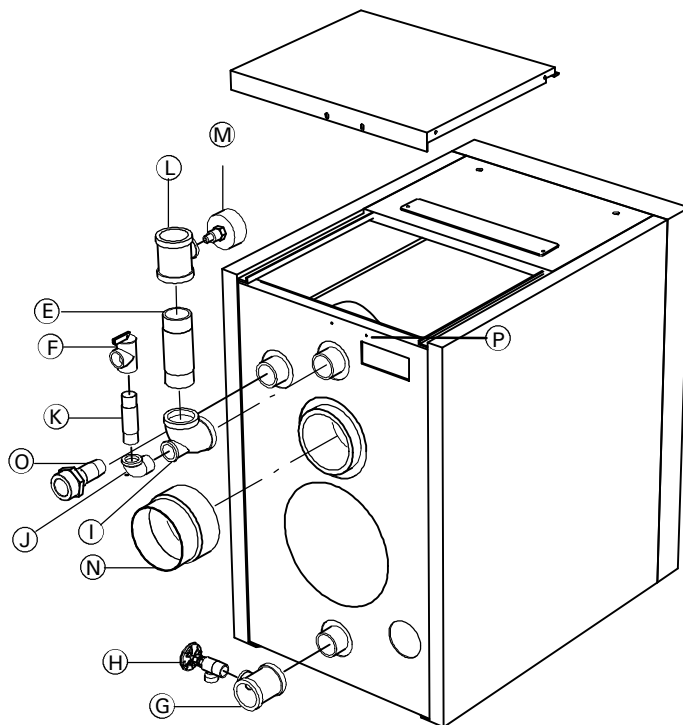

Fig. 21
3. Connect system supply to Ⓐ using NPT fittings, Fig. 21
4. Install temperature and pressure gage with brass extension coupling Ⓜ in 1/2" opening as shown in the illustration, Fig. 21